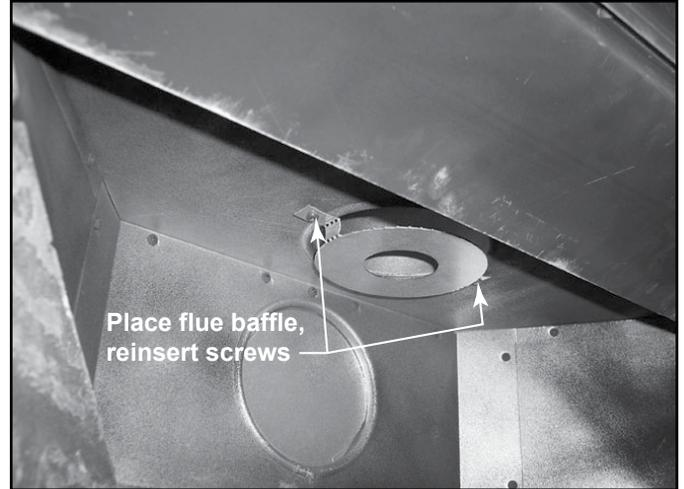

Figure 4.19 12-30 Foot Vertical Run
- The flue baffle will be turned to install below the level of the firebox top for 12-30 ft. vertical runs of vent. See Figure 4.19.